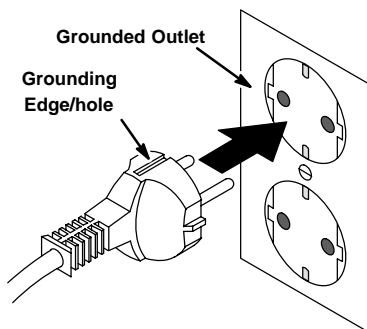

FIG. 8
- Plug the power cord into a grounded wall outlet (Figure 8).